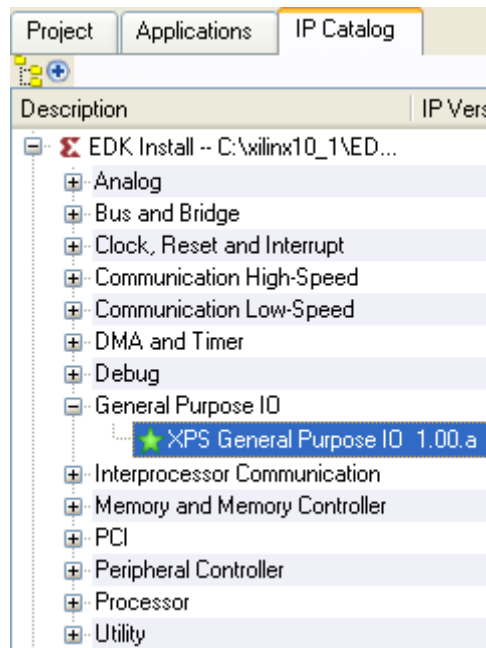

Figure 1-22. System Assembly View
- ❶ Select the **IP Catalog** tab in the left window and click on plus sign next to **General Purpose IO** entry to view the available cores under it (Figure 1-22)